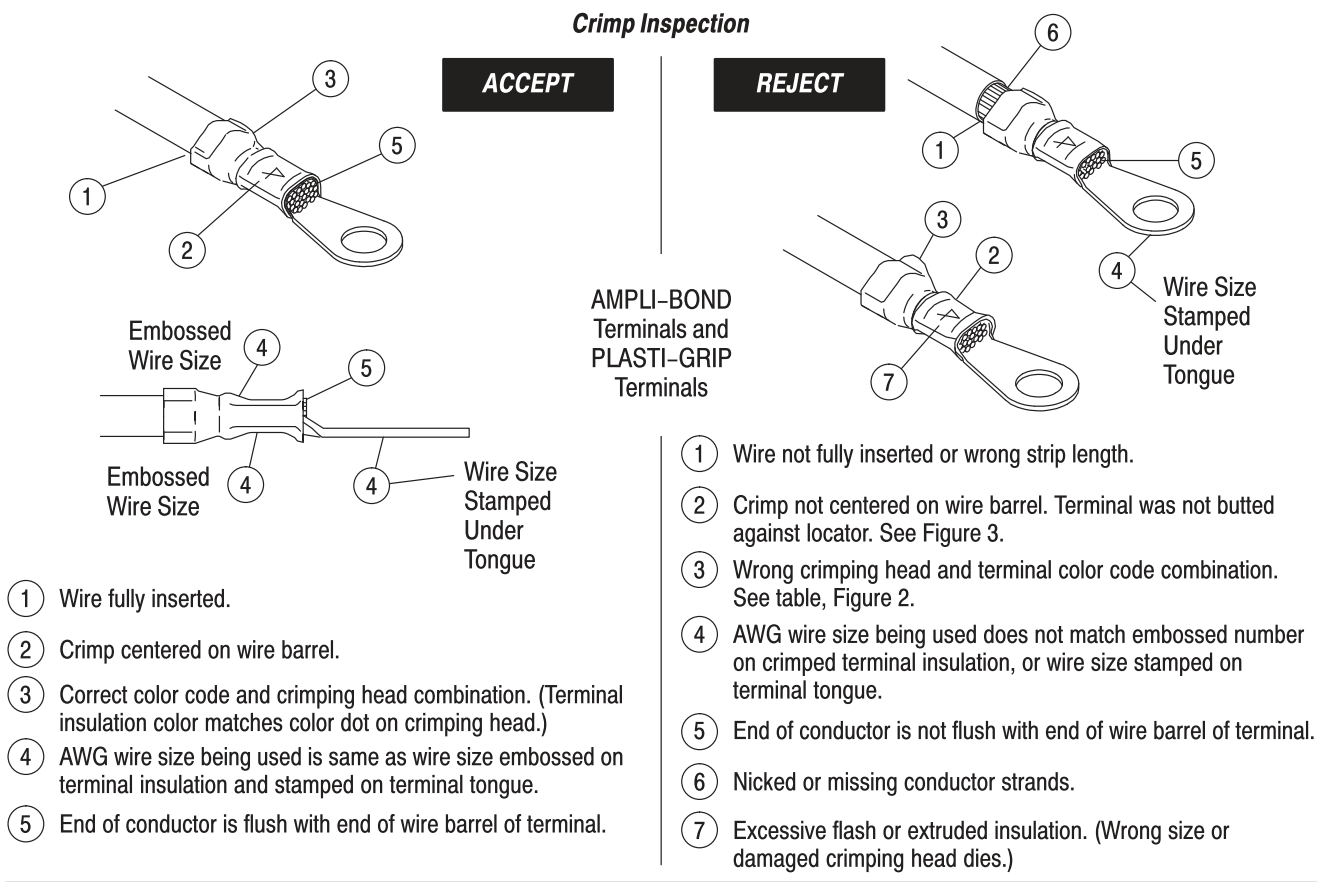

Figure 4
6. Refer to Section 5 and Figure 4 for crimp inspection procedure.
Inspect crimped terminals by checking the features described in Figure 4. Use only terminals that meet the conditions shown in the "ACCEPT" column. "REJECT" terminations can be avoided through careful use of instruction in Section 4, and by performing regular head maintenance, as described in Section 6.